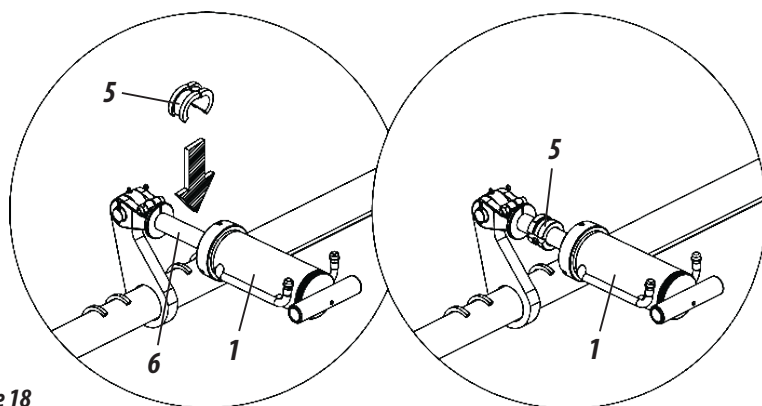

Figure 18
- 4- Then, before lowering the hydraulic cylinder (1), place the limiting rings (5) on the rods (6) of the cylinders, this will prevent the suspended weight of the lines from becoming greater, **as shown in Figure 18.**
- 5- To adjust the new spacing, loosen the screws (1), releasing the locks